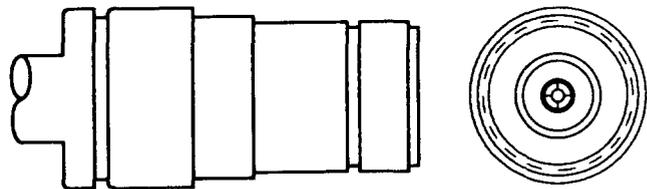

Fig. 2—KS-16289, L1, Coaxial Jack
2.02 **KS-16289, L1:** The KS-16289, L1, jack (Fig. 2) is a 50 ohm coaxial jack. The center contact is gold plated. It is modified for use with No. 724 cable. Shield connection to this cable is made by means of a KS-15712, L5, outer sleeve, which is not furnished with the jack. The KS-16289, L1, jack will mate with the KS-16290 plug. This jack is used in the terminal and repeater equipment of the A2A Video Transmission System, J44105.